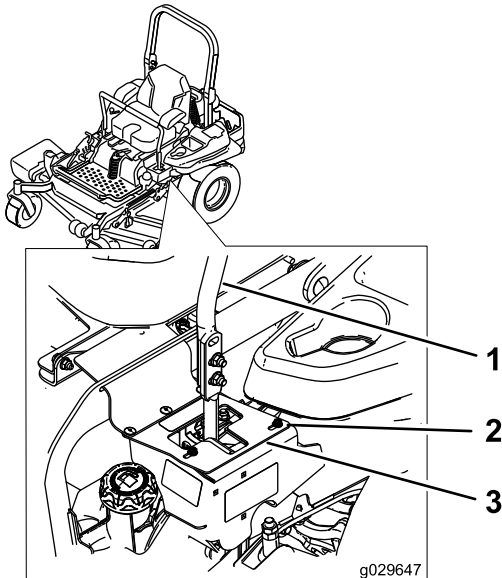

Figure 67
6. If the machine tracks to the right, loosen the bolts and adjust the left stop plate rearward on the left T-slot until the machine tracks straight (Figure 67).
7. If the machine tracks to the left, loosen the bolts and adjust the right stop plate rearward on the right T-slot until the machine tracks straight (Figure 67).
8. Tighten the stop plate (Figure 67).